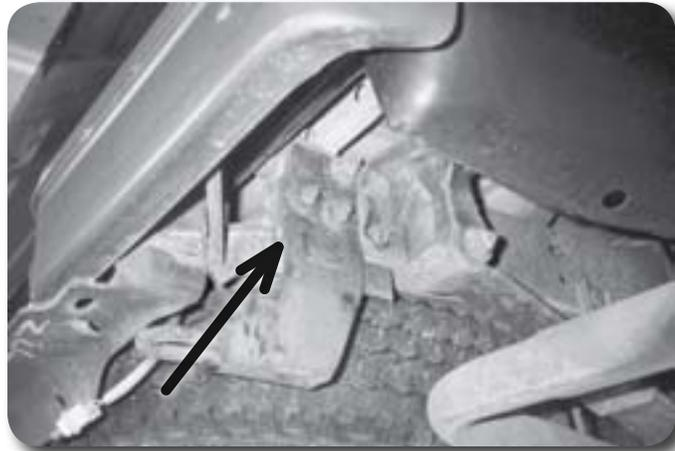

Figure 18
58. If equipped, remove the rear tow hook from the frame. Remove the four bolts that mount the tow hook **Figure 18** and remove it from the vehicle. Save hardware.